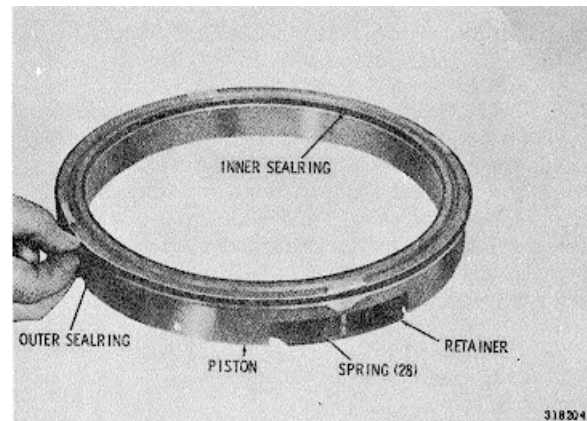

Fig. 6-64. Removing (or installing) first clutch piston seal ring
(1) Position the assembly, piston assembly upward. Lift out the piston assembly (includes items 3 through 8).
(2) Remove the inner and outer sealrings from the piston (Fig. 6-64).
(5) When all four retainer rings are properly installed, remove the piston assembly from the adapter housing.
(6) Lubricate sealrings 7 and 8 with transmission fluid. Install the sealrings, with the lip of each sealring facing rearward, away from the spring side of the piston (Fig. 6-64).
(7) Do not install the piston assembly into the adapter housing until the housing is installed, as outlined in Section 7, for gear unit installation.